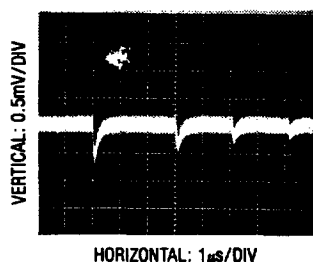

Figure 15. Adequate Reference Settling
1. Transients on the reference inputs caused by the capacitive switching currents must settle completely during each bit test (each 4 ACLK cycles). Figures 15 and 16 show examples of both adequate and poor settling. Using a slower ACLK will allow more time for the reference to settle. However, even at the maximum ACLK rate of 4MHz most references and op amps can be made to settle within the $1\mu\text{s}$ bit time. For example the LT1027 will settle adequately or with a $10\mu\text{F}$ bypass capacitor at REF^+ the LT1021 can also be used.